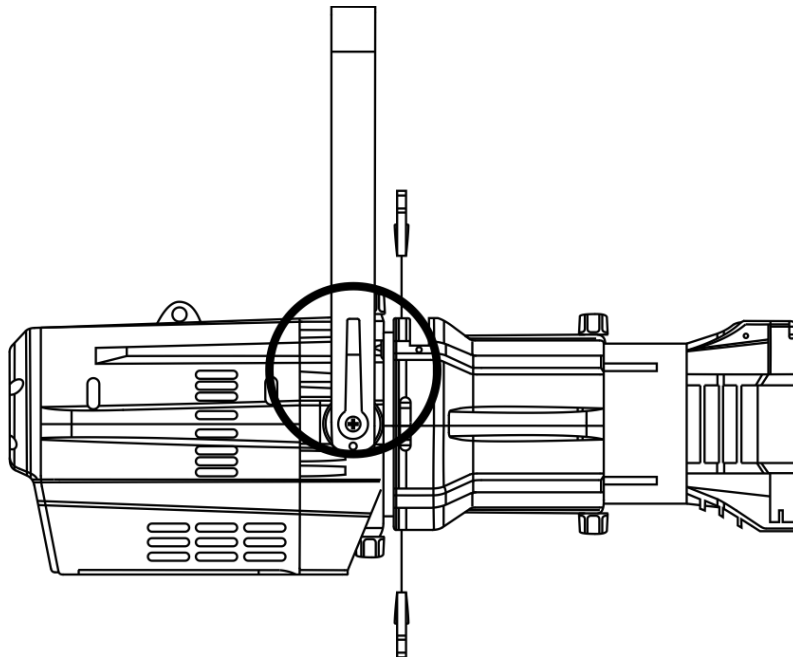

Fig. 10
- 02) Tilt the fixture to the desired position (fig. 10).